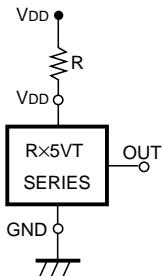

FIG.9
1. When Rx5VTxC (CMOS Output) is used in FIG. 9, this IC may oscillate by the through-type current at the detection when impedance is connected between Power Source VDD and Rx5VT VDD Pin. When Rx5VTxA (Nch Open Drain Output) is used in FIG. 9, and R becomes excessively large, Detector Threshold may be varied because of the voltage drop of the supply current in the IC itself.